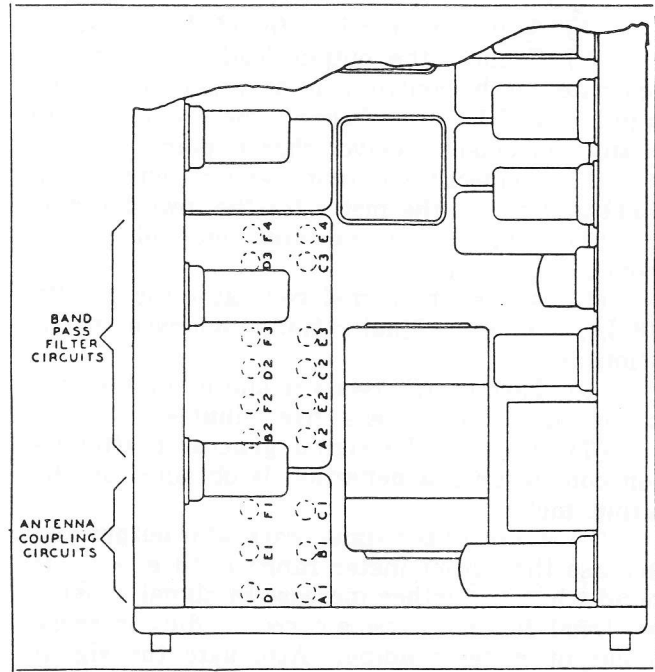

Figure 5-8. Tuned Circuit Locating Diagram, Band Pass and Antenna Coupling Circuits Adjustments
(4) Loosen the screws holding the protective covers of the alignment holes for the antenna coil and band pass coil assemblies, and slide these covers the length of the slots thus exposing the alignment holes. (Refer to figures 5-8, 6-1 and 6-2.)